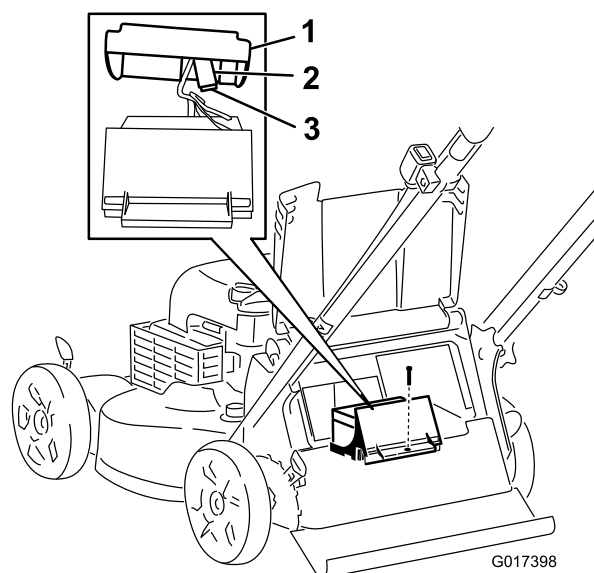

Figure 26
3. Remove the screw that secures the battery compartment, pull out the battery, and locate the fuse (Figure 26).
4. Replace the fuse in the fuse holder (Figure 26).